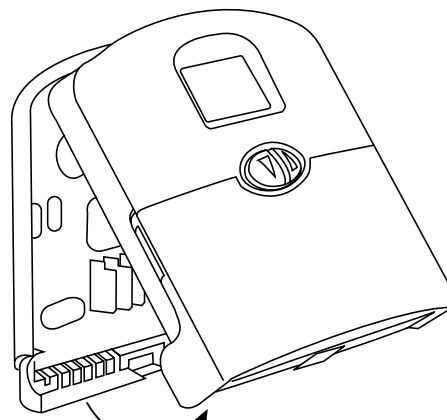

Figure 2
■ Remove the wallplate from your thermostat by pressing the release tab on the bottom of the thermostat. See Figure 2.